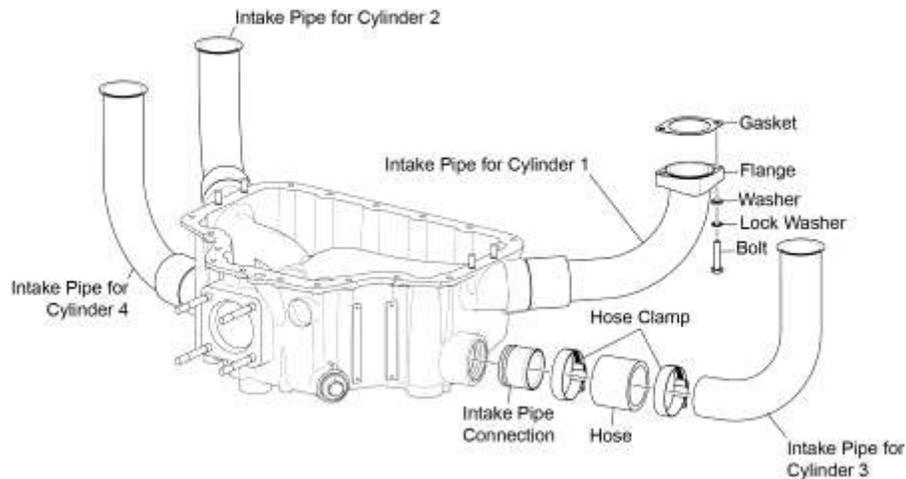

Figure 1
- A. Examine the air intake pipes (Figure 1) for leaks, security.
NOTICE: Be sure to replace the intake pipe with the replacement intake pipe of the correct part number that corresponds to the engine cylinder number (Figure 1). Refer to the *L1O-360-B1G6 Illustrated Parts Catalog*.
- (1) Remove the two bolts, lock washers, and washers from the intake pipe flange at the engine cylinder (Figure 1). Discard the lock washers.
- (2) If the intake pipe is not to be replaced, attach a label to the intake pipe that identifies the corresponding engine cylinder number for reference on assembly.
- (3) Remove the two hose clamps, hose, and intake pipe from the intake pipe connection.
- (4) Remove and discard the gasket from the intake pipe.
- (5) Examine the intake pipe connection for damage or loose fit in the sump.
- (6) If the intake pipe connection is damaged, replace a damaged intake pipe connection with a new oversized intake pipe connection as follows: